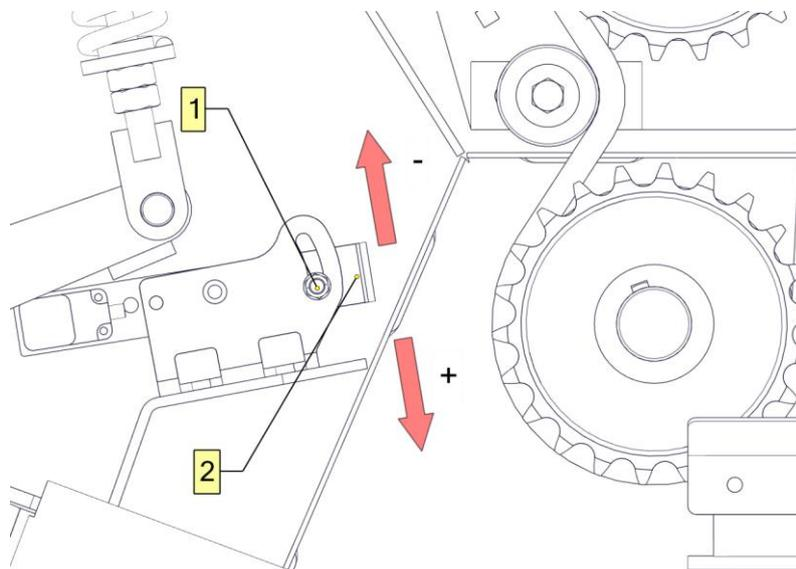

Figure 25. Adjusting the degree of compaction
Adjust the degree of compaction on the right-hand side of the machine. To change the compaction degree setting, loosen the nut (1) as shown in Fig. 25, and then use the lever (2) to set the proper compaction degree. Move the lever (2) up to decrease the compaction degree; move it down to increase the compaction degree. After the adjustment has completed, tighten the nut (1).